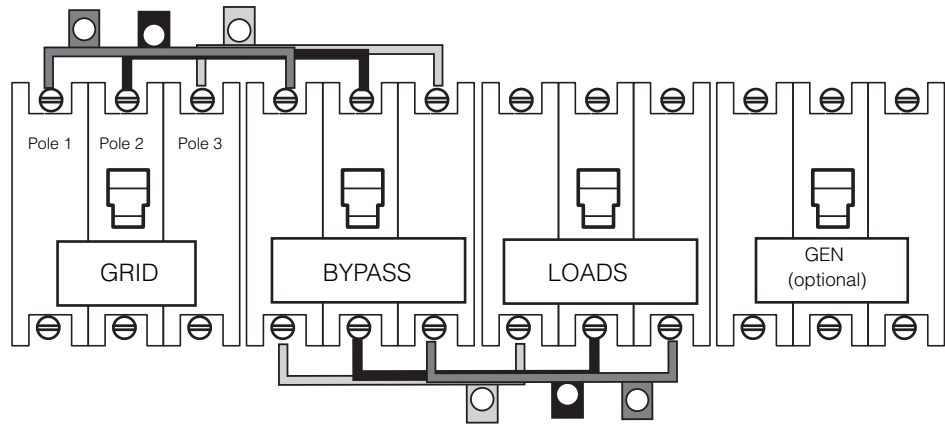

Figure 3-32 Power Distribution Jumper Installation (Three-Phase)
3. In the PDP, attach six two-tab power distribution jumpers in the AC breaker positions as shown in Figure 3-32 on page 3-64.